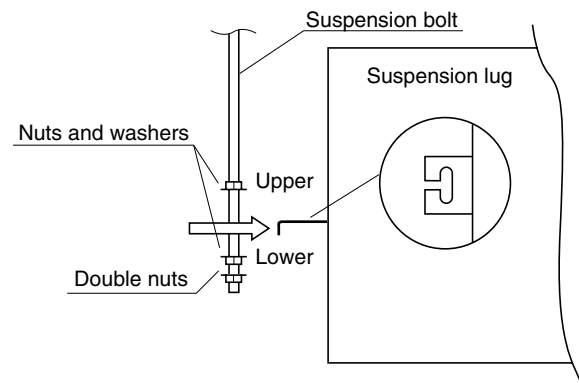

**Fig. 3-23**
- (3) The distance between the unit and the opening in the ceiling and the distance between the bottom surface of the ceiling and the bottom surface of the flange of the unit should follow the dimensions given in Fig. 3-23. Use the supplied installation gauge to check.